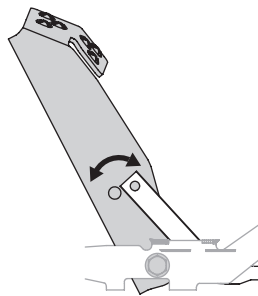

Figure 33
3. Position the pedal to the optimal position based on user preference (Figure 33).